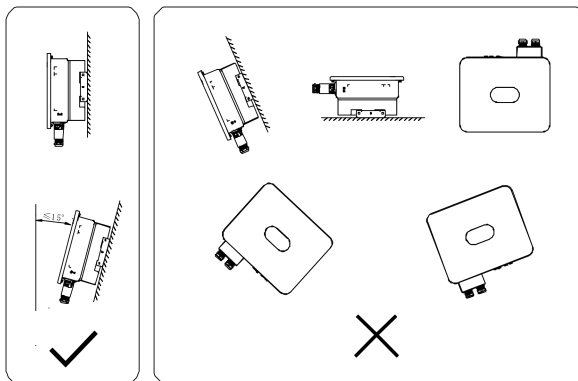

Fig. 4.6 Installation Location of Inverter
(4) The mounting surface should be upright (see Fig. 4.6). Install the inverter vertically or at a backward tilt of  $\leq 15^\circ$  so as to facilitate heat radiation. Forward tilt, horizontal installation, upside-down installation, backward tilt of  $> 15^\circ$  and sideways tilt are not allowed.